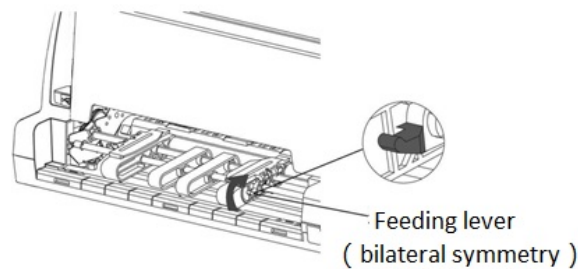

Fig. 2-8
- 5) Release the feeding lever upwards as shown by the arrow in Fig. 2-8. The paper feeder and paper guide can be moved left and right. (They will be locked when you move the lever downwards.)